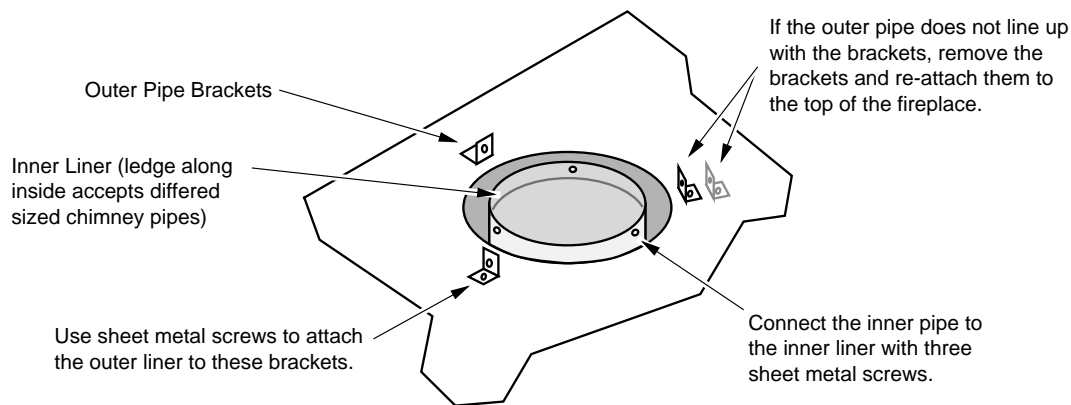

Figure 19
- Each brand of chimney has a slightly different outside diameter. To accommodate this, the fireplace has three "L" brackets (outer liner connectors) on the top of the fireplace can. Center a section of chimney over the chimney opening and mark the exterior location of the chimney. Reposition the "L" brackets, if necessary, so they are adjacent the exterior of the chimney (see Figure 19).